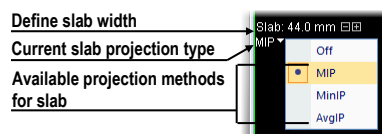

Figure 266 – Controls for defining slab in the current view
3. Select the method for the slab pixel values calculation (see Figure 266).